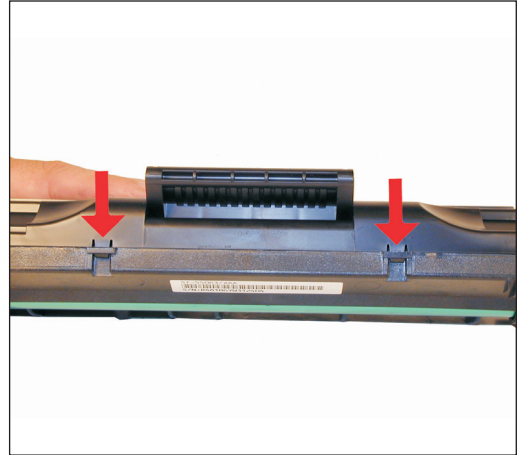

Figure 7
- 2) Underneath the handle of the cartridge to the right and left, there are 2 plastic tabs GENTLY press them in, and lift the cover off. See Figure 7